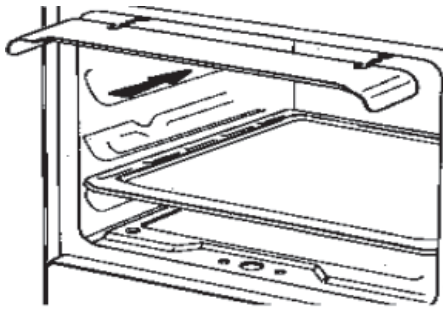

Figure 7
- Fit the knob guard to protect it from hot air, as shown in Fig 7.
- Fit the knob guard to protect it from hot air, as shown in Figure 7.